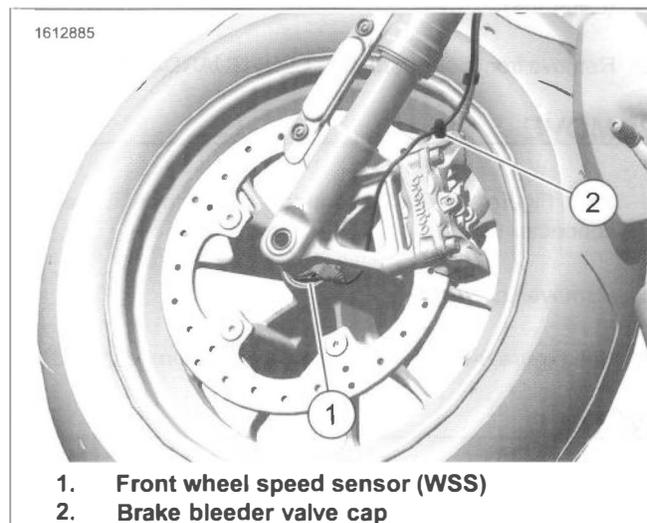
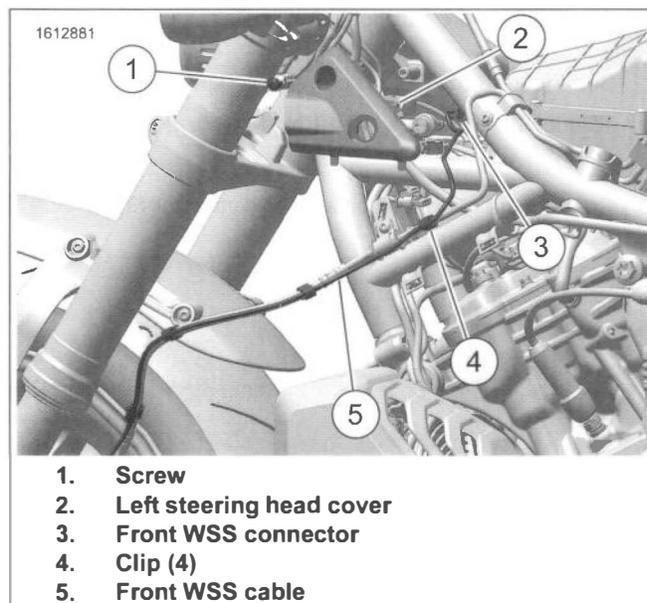

Figure 8-65. Front WSS
Figure 8-66. Front WSS Cable Assembly
1. See Figure 8-65. Remove Wheel Speed Sensor (WSS) (1).
2. Disengage WSS cable from brake bleeder valve cap (2).
3. See Figure 8-66. Remove screw (1) and left steering head cover (2).
4. Disconnect WSS connector (3).
5. Detach WSS cable (5) from clips (4) on front brake hose.
1. See Figure 8-65. Install WSS (1). Position as shown. Slide front axle back in place. Make sure WSS rests against stop tab on front fork.
3. Capture WSS cable in front brake bleeder valve cap (2).
4. See Figure 8-66. Attach WSS cable (5) to clips (4) on front brake hose in locations previously noted.
5. Connect WSS connector (3).
6. Install cover (2) with screw (1). Tighten.